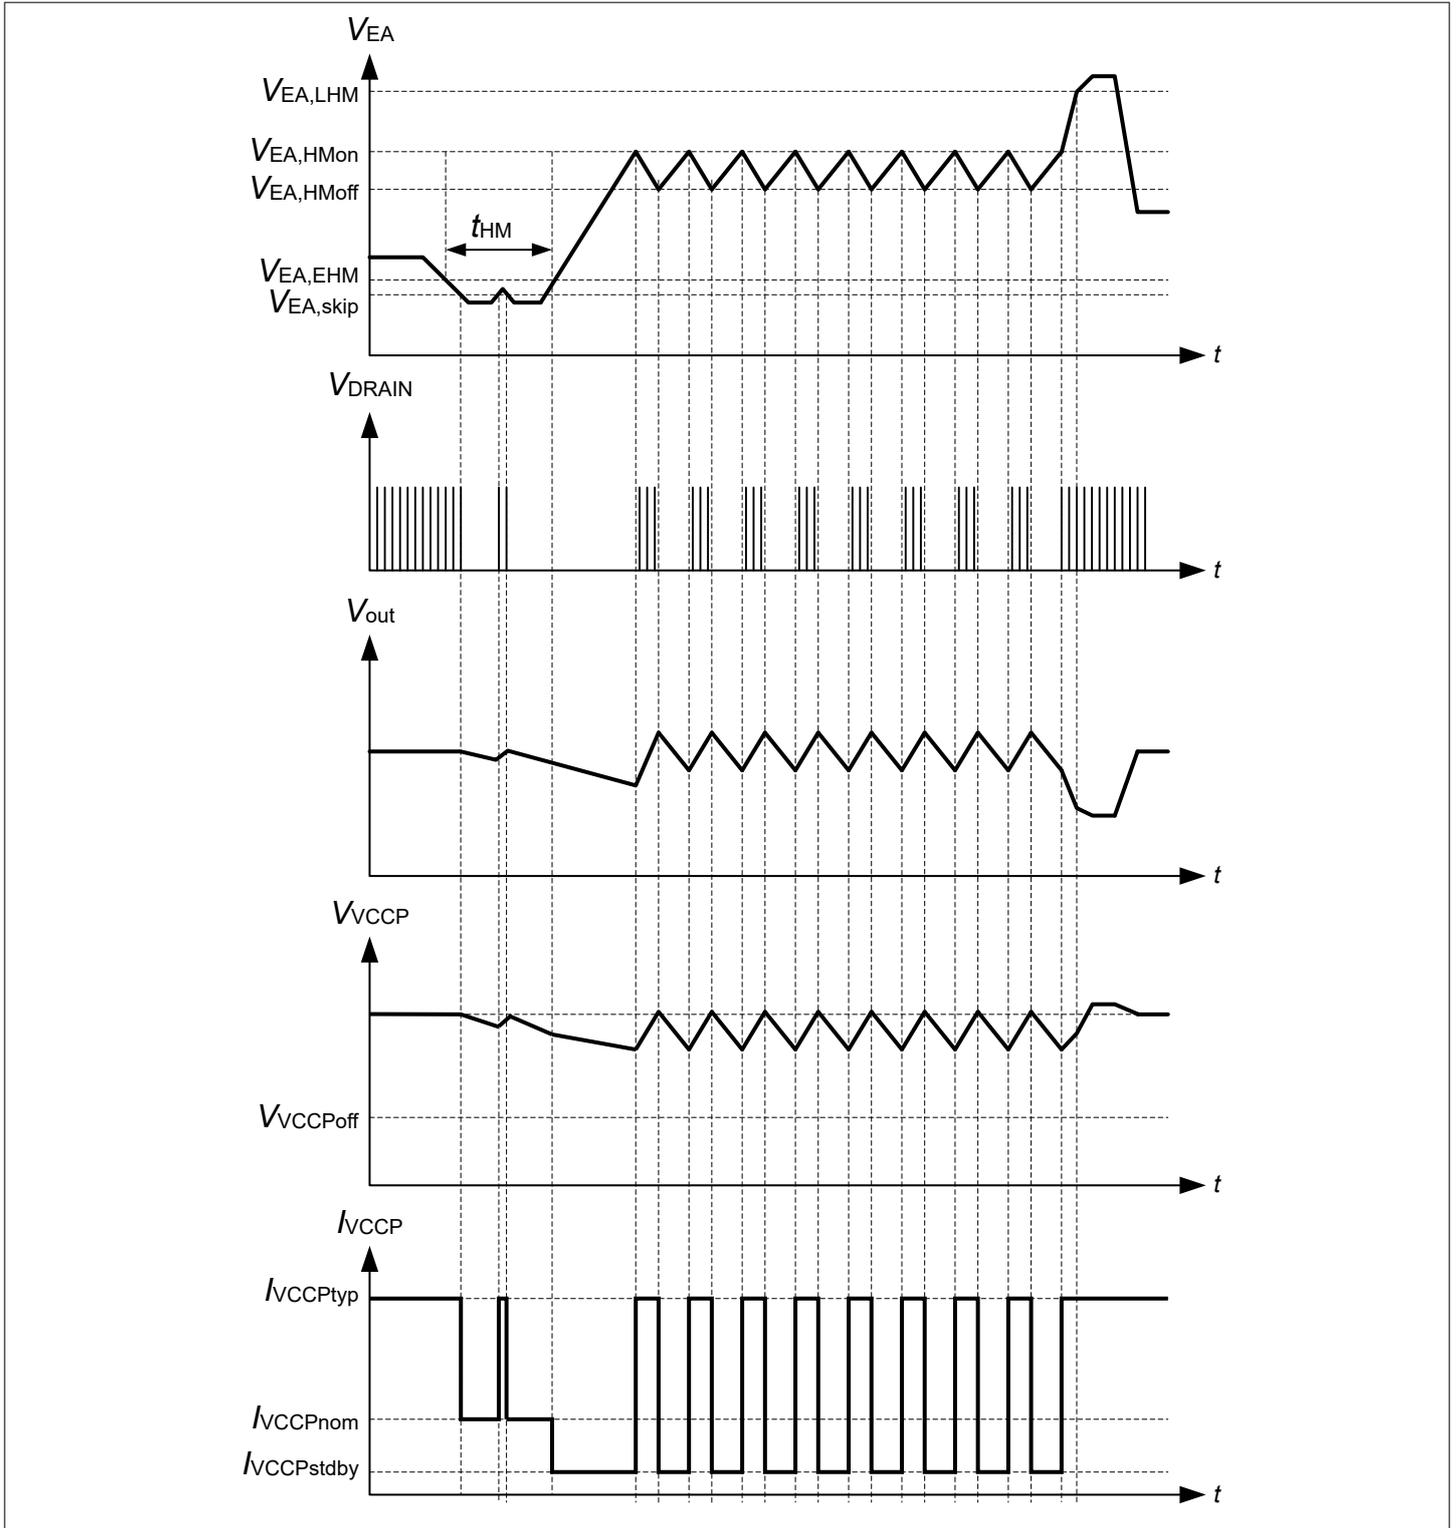

Figure 9 Typical signals for entering, during and exiting hysteretic mode
At continuous light-load condition, the controller enters hysteretic mode (HM) to minimize the average power consumption. The hysteretic mode entry level is targeted for low range of output power. For determination of entering hysteretic mode, three conditions apply (see Figure 9):